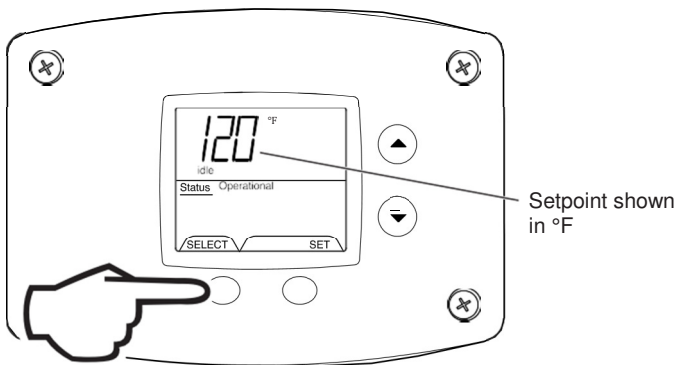

Fig. 27
- Pressing 'SELECT' button will return display to setpoint in format selected (°F or °C) immediately (Fig. 27).